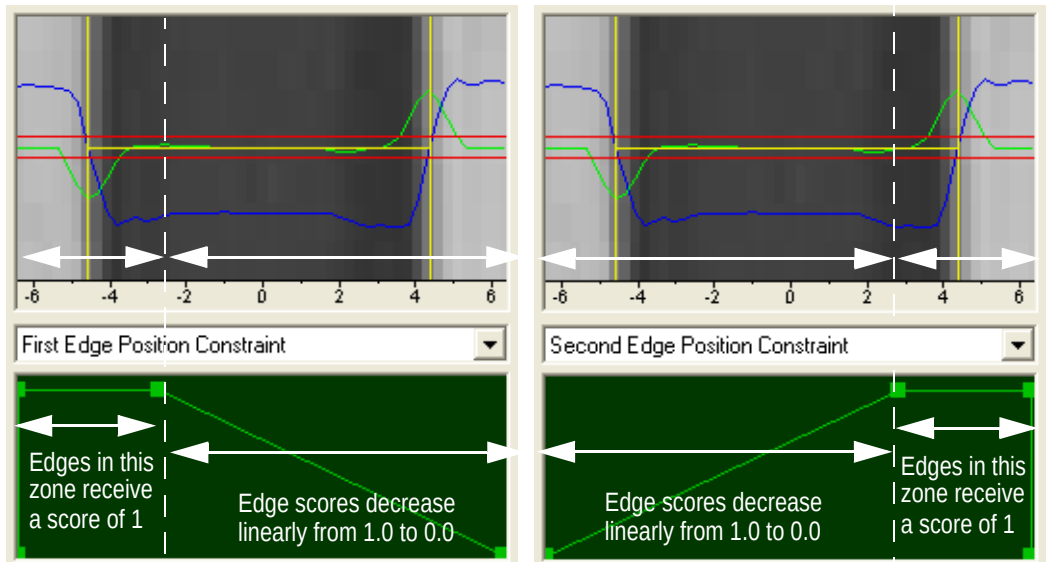

Figure 33 Adjusting Position Constraint Histograms
4. Use the mouse to drag the handles in the histogram window. Set the 1st and the 2nd edge position constraints as illustrated in Figure 33.